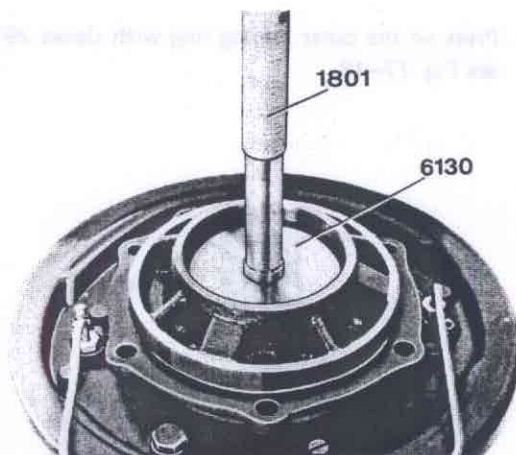
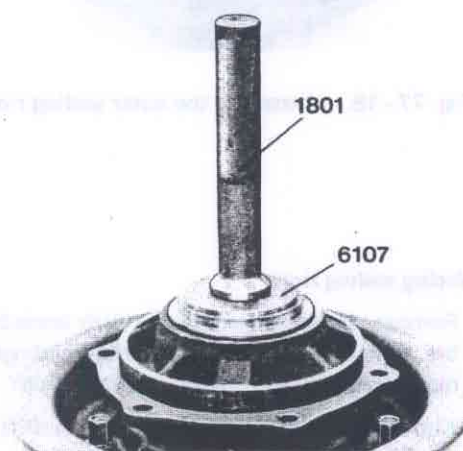

Fig. 77-15. Installing the inner sealing ring
Fig. 77-16. Installing the inner bearing outer ring
9. Tap in the inner sealing ring with drift 6130, see Fig. 77-15. The sealing ring should be 2 mm (5/64") under the outer ring. Press in the inner bearing outer ring with drift 6107 and standard handle 1801, see Fig. 77-16.
7. Tap in the inner sealing ring with drift 6130, Fig. 77-15. The sealing ring should lie 2 mm (5/64") below the outer ring. Press in the inner bearing outer ring with drift 6107 and standard handle 1801, Fig. 77-16.